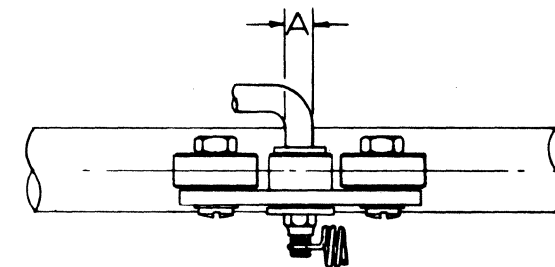

FIGURE 7-17
- (1) Prior to installing carriage in printer, install 1/2" carriage shaft under dual bearing carrier.
- (2) Install tensioner spring loading dual bearing carrier against shaft.
- (3) The centerline of the dual bearing carrier must be in line with the centerline of the carriage shaft.
- (4) Move the shaft back and forth. The bearing carrier must not tilt or rock in any way. If so, bearings are not aligned properly.
- (5) If alignment is necessary, grasp link with pliers at point A refer to Figure 7-17 and twist carefully until carrier is aligned properly. Repeat steps 4 and 5 until alignment is correct.